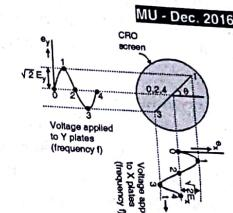

Fig. 7.13.2
- (i) With equal voltage and zero phase difference (Fig. 7.13.2.) In this particular case the resultant on the screen is a straight line.